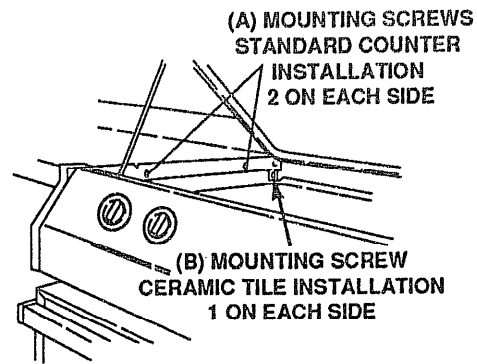

Fig. 6
- Drill 1/8" diameter pilot holes into countertop using holes in upper side panels. Attach range to countertop with screws provided in literature package. Refer to Fig. 6.